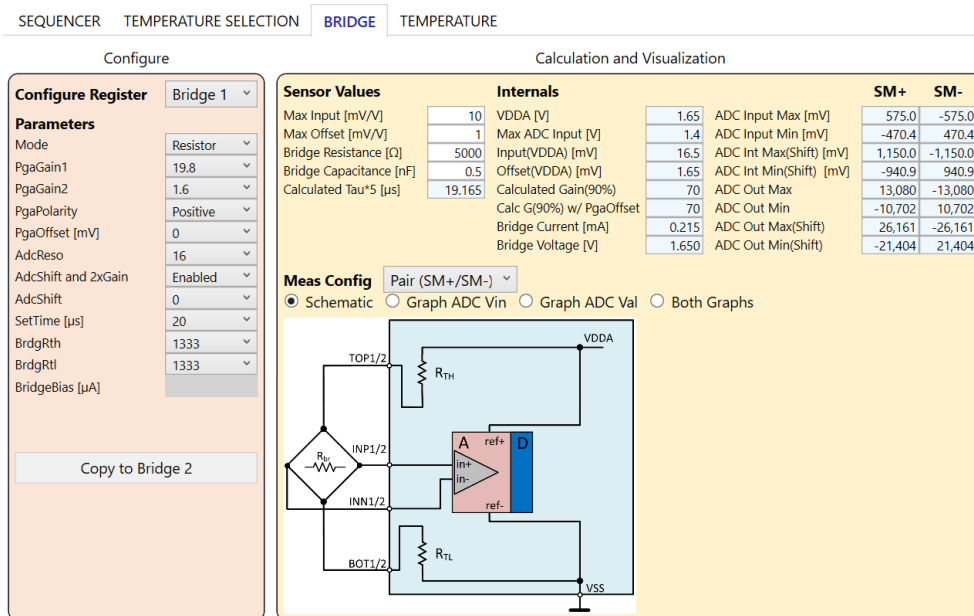

Figure 39. Resistor Mode
- Resistor: Internal voltage supply (VDDA, Reference 3) with configurable internal series resistors (Figure 39).